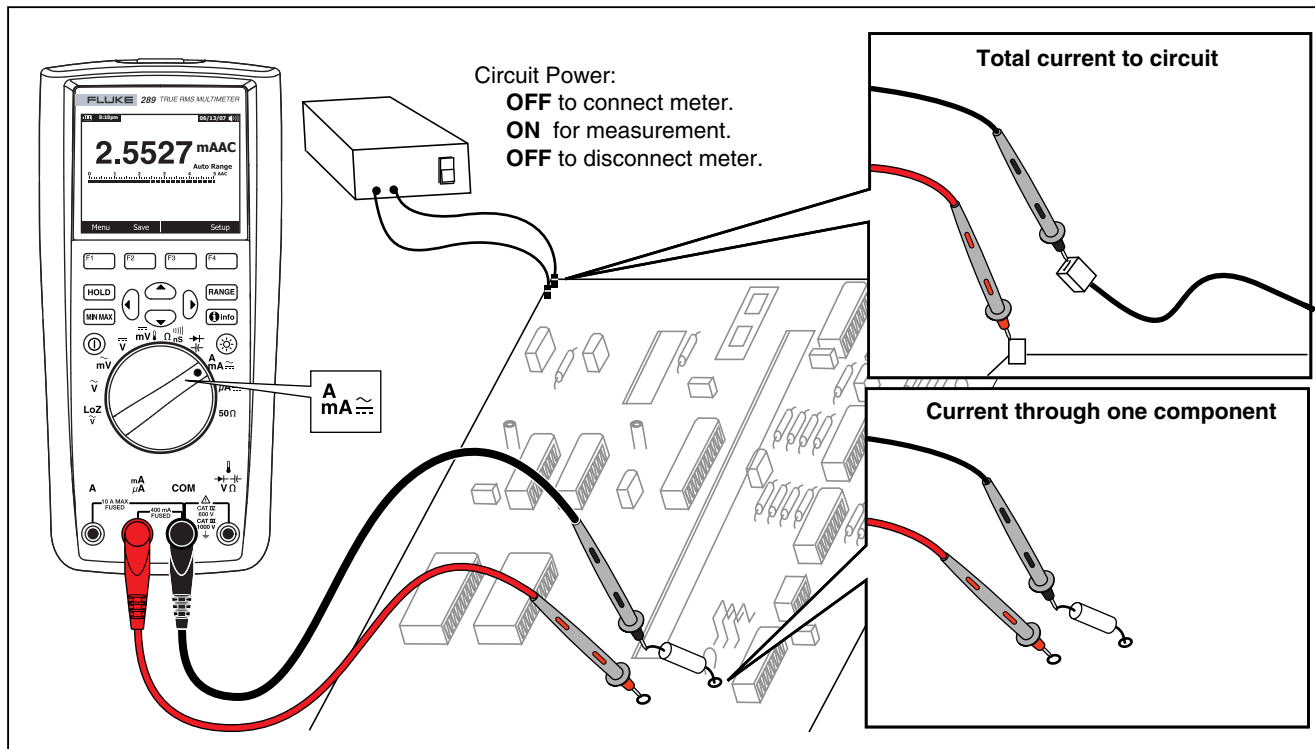

Figure 22. Current Measurement Circuit Connection
4. As shown in Figure 22, open the circuit path to be tested. Touch the red probe to the more positive side of the break; touch the black probe to the more negative side of the break. Reversing the leads will produce a negative reading, but will not damage the meter.